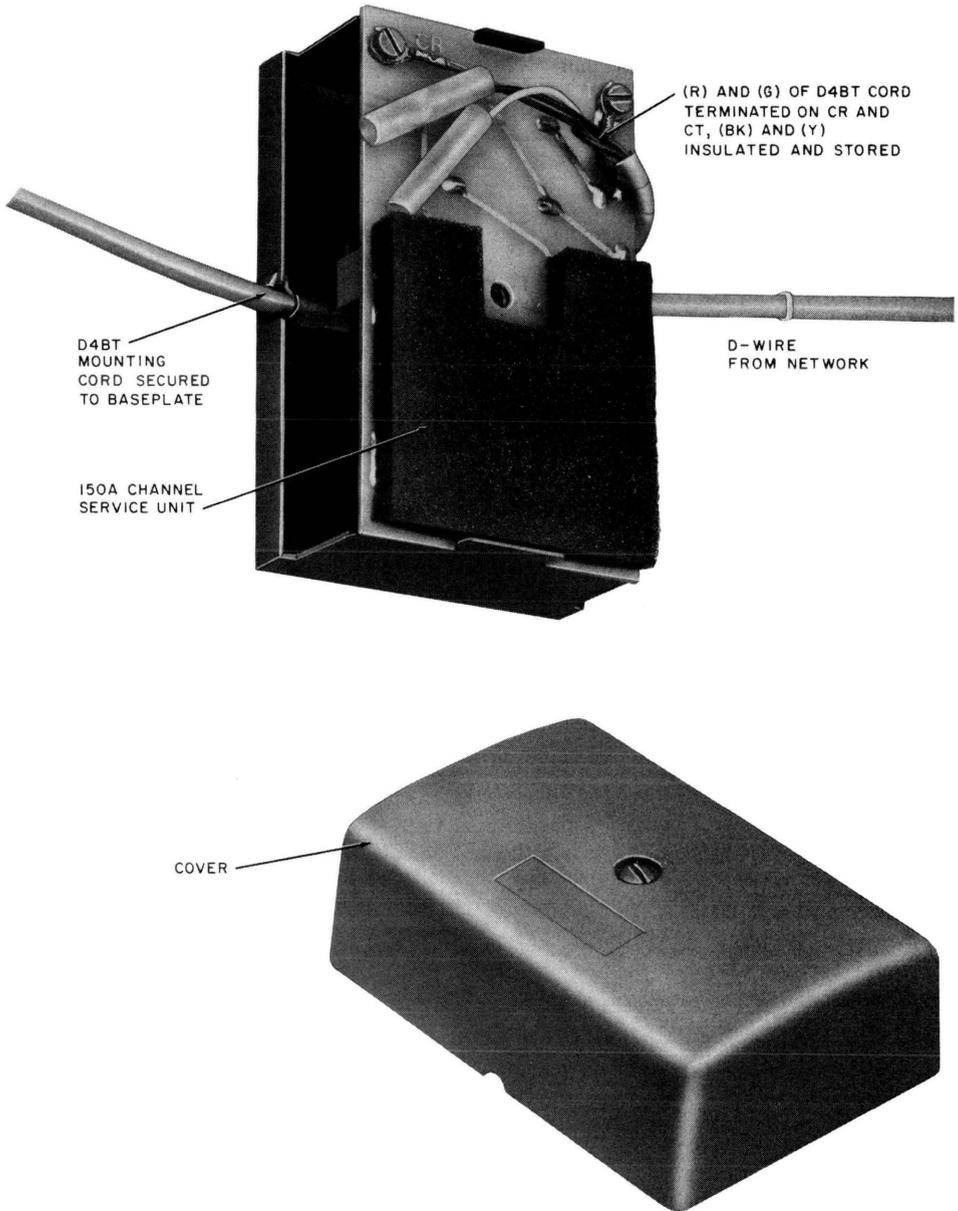

Fig. 2—150A Channel Service Unit Showing Connection of Transaction III Terminal Set
3.02 Secure the **J-hook** (Fig. 2) of the D4BT mounting cord into the baseplate of the CSU and terminate as follows: